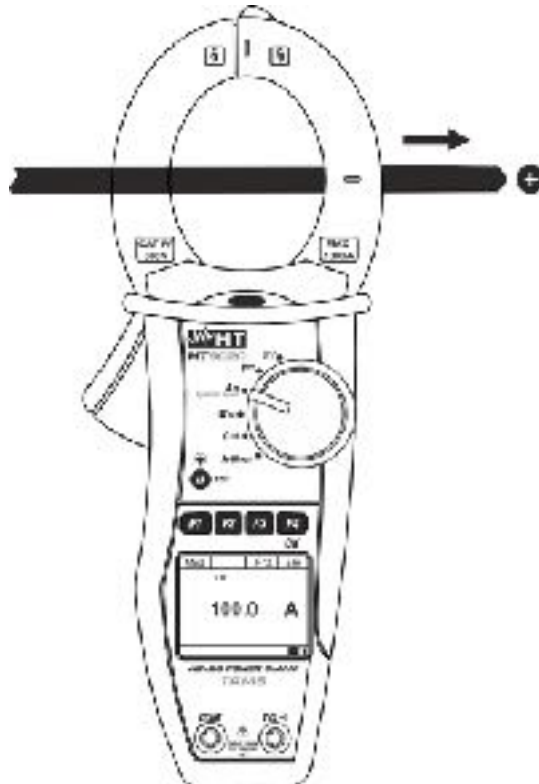

Fig. 9: DC current measurement
- Connect the cable to the middle of the clamp jaws, in order to get accurate measurements (see Fig. 9). Use the marks as a reference (see Fig. 2)